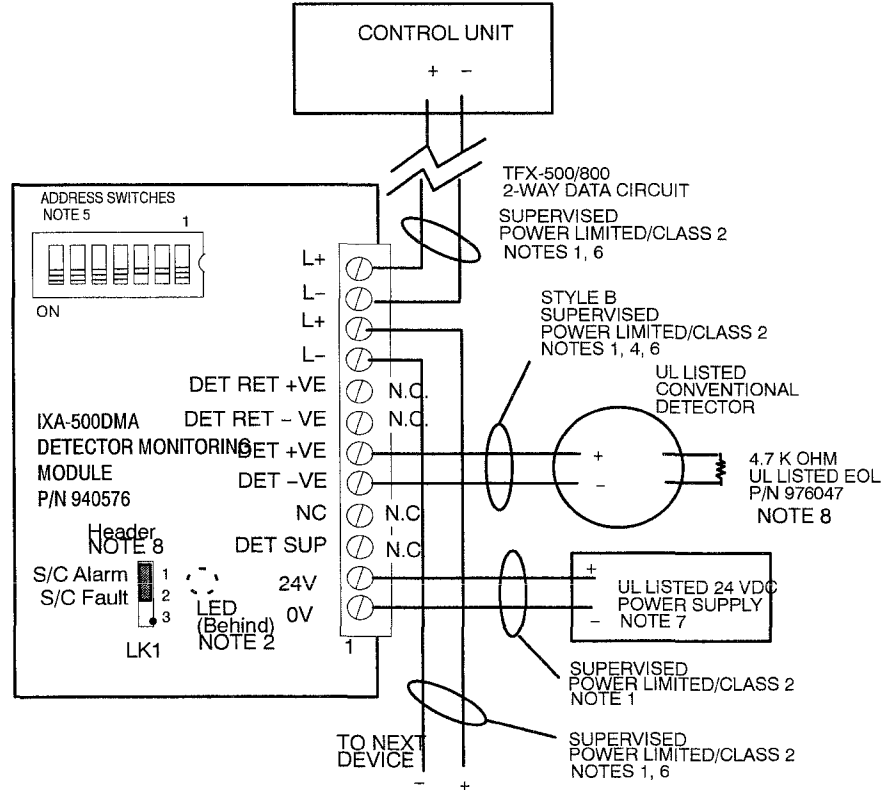

Figure 2 Typical 2-Wire Conventional Detector Circuit, Style B
7. Connect the detector circuit making sure of correct polarity. See Figures 2, 3, and 4.
**Notes (see Figures 2, 3, 4):**